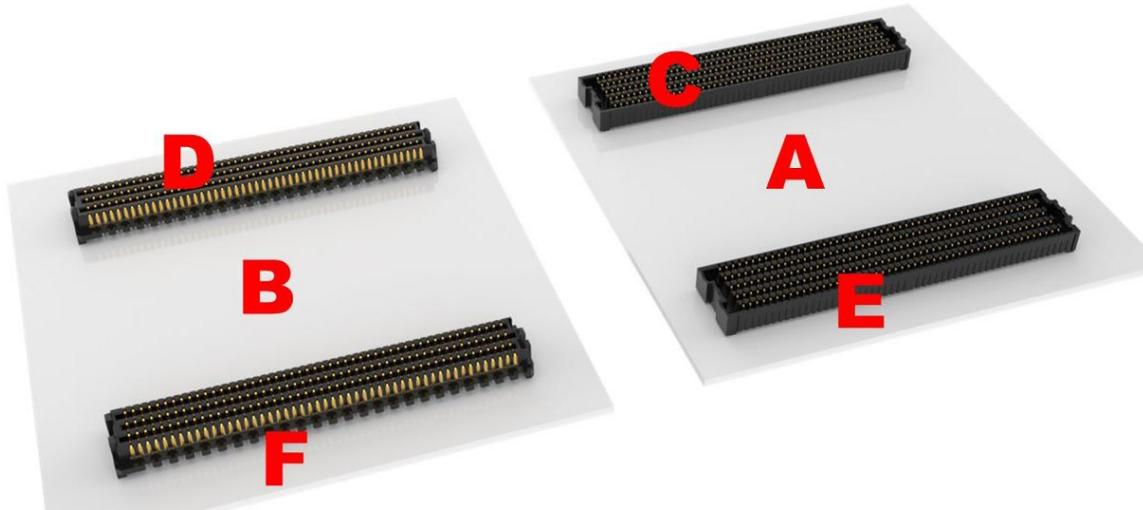

Figure 2: Designers need to consider and account for the tolerances of all components, including the PCBs. (Image source: Samtec Inc.)
However, the addition of more mated connector sets onto the same mother-mezzanine card—in any direction and at any distance—will introduce several tolerances which *will* stack (Figure 2, bottom). These tolerances are unique to the PCB fab shop, the electronic manufacturing service, and the properties of the materials used in the PCBs.
To clarify the problem, consider a multiple mezzanine connector system (Figure 2). This assembly comprises six components or more: the motherboard (A), a mezzanine card (B), female connector #1, (C), which mates to male connector #1 (D), and female connector #2 (E), which mates to male connector #2 (F).
Referring back to the multi-connector mezzanine card system of Figure 2, A through F, a connector supplier can only control the tolerances of the connectors. A good supplier will meet or exceed published performance specifications, make PCB tolerance and processing recommendations, and even provide referrals for PCB suppliers and equipment recommendations, as needed.